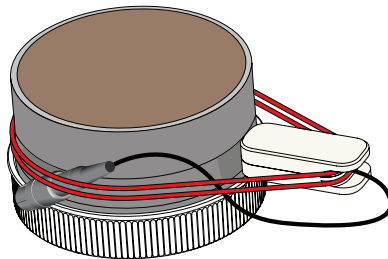

Figure 20 Soil sample ring with sensor installed
10. Secure the sensor cable connector in the retaining rings (Figure 20).